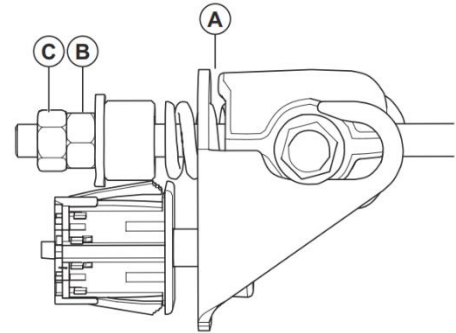

Fig. 3:
5. Use a feeler gauge to measure the gap (A, figure 3) between the interlock bracket and the adapter. The gap must be 0.030-0.060 in (0.76-1.52 mm).
6. Use an adjustable or a ½ inch wrench to loosen the jam nut (C, figure 3).
7. Loosen or tighten the adjustment nut (B, figure 3) using an adjustable or ½ inch wrench as necessary to get the correct measurement.